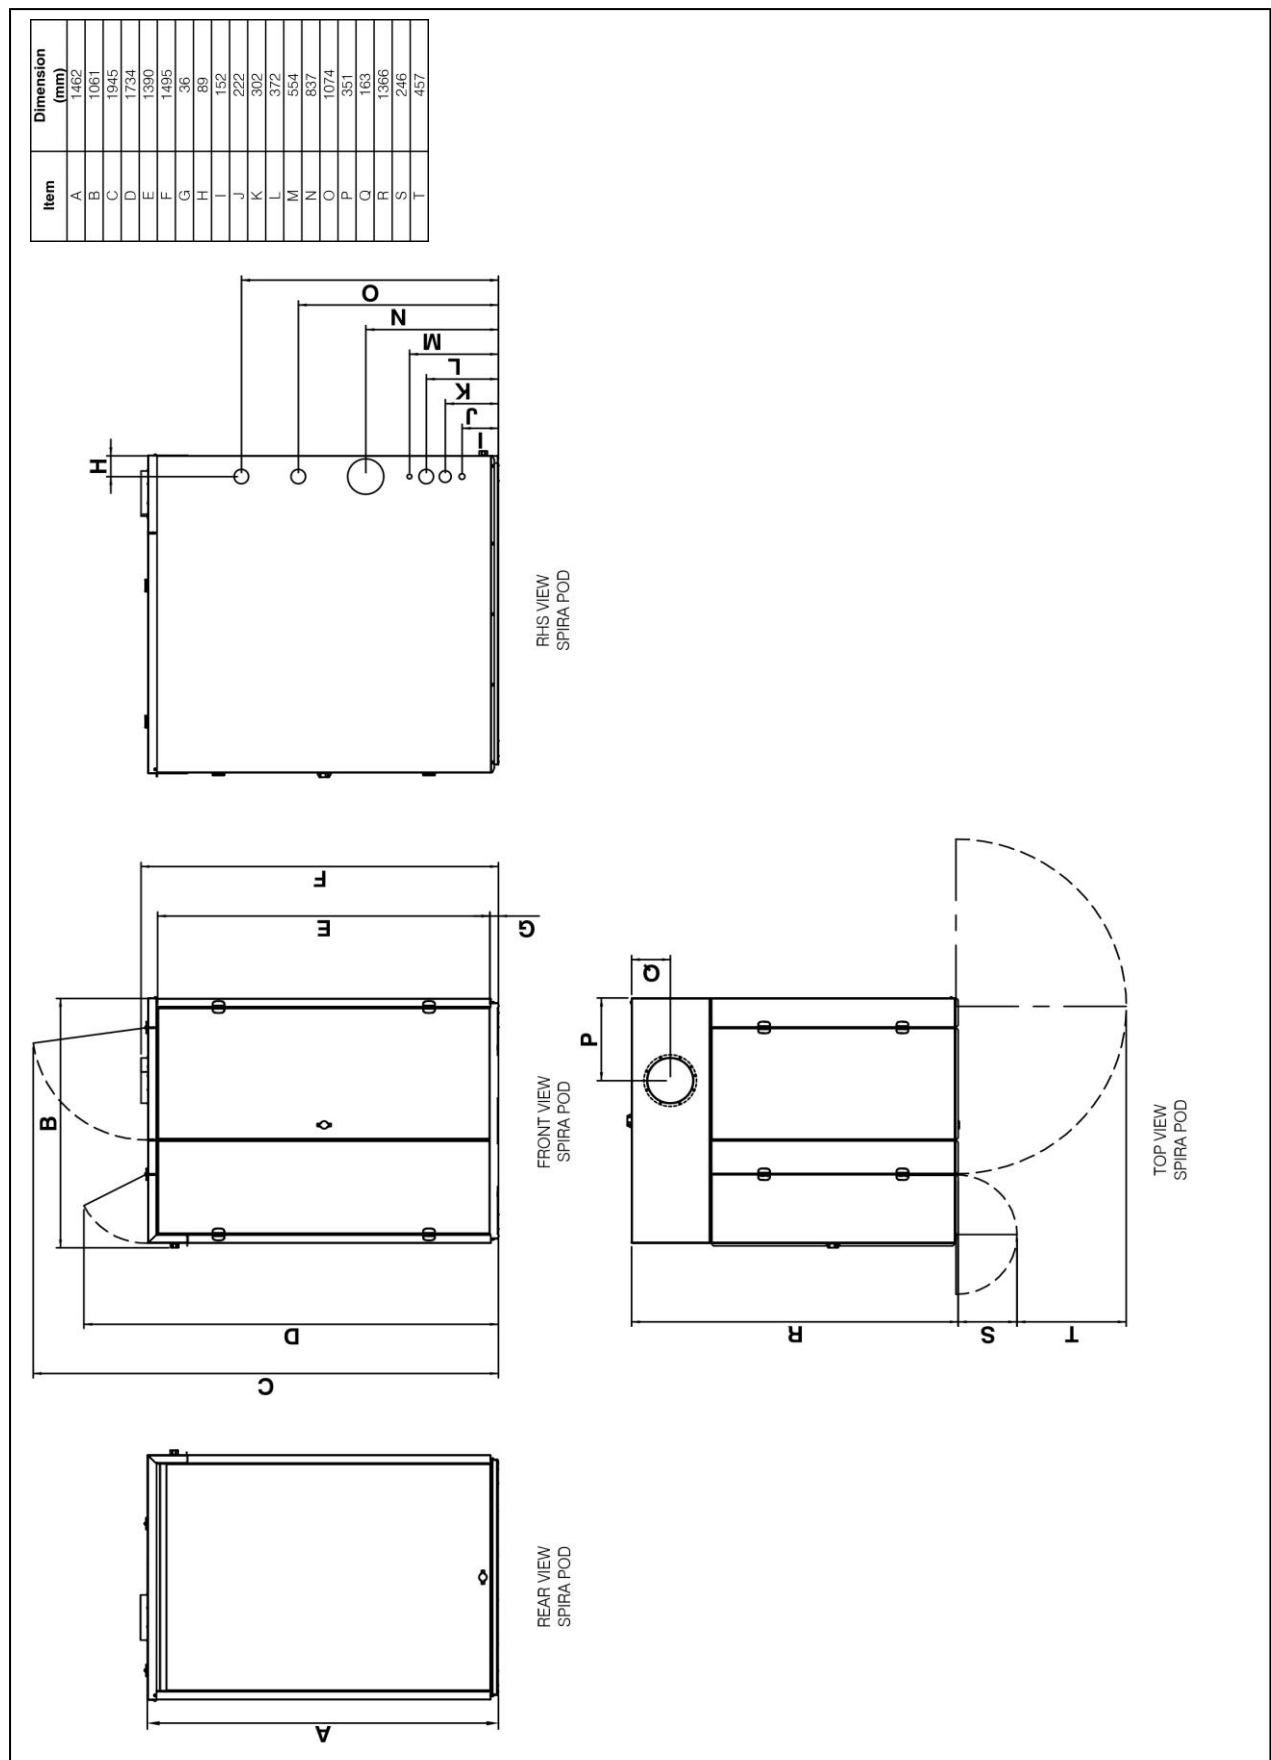

Figure 2-1. SpiraPod overall dimensions
- a) Through the pre-cut openings provided in the 'wall side' (left side when viewed from the rear of the SpiraPod – refer to Figure 2-1) and through the wall, when installed against the building, or